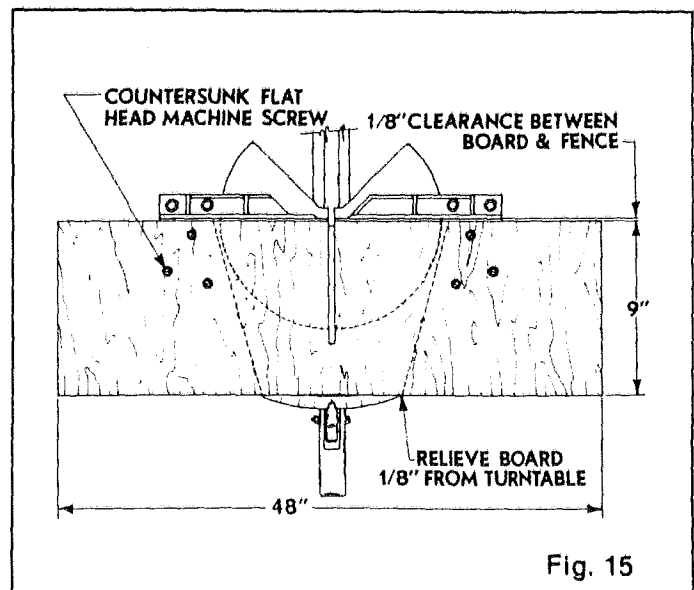

Fig. 15
To construct a table extension it is suggested that a 1/2" thick x 9" wide x 48" long straight, solid board be used. See Fig. 15. The bottom surface of the board must be relieved 1/8" in the area of the turntable to permit rotation of the miter arm. Attach the board to the miter saw table, according to the illustration shown, using six (6) 1/4-20 x 1" long counter-sunk flat head machine screws. All screw heads must be recessed below the top surface of the board. After assembly of the board to the table, make a clearance cut into the board with the miter arm and/or bevel post at the setting to be used. **NOTE:** The usable height of the fence as well as the thickness cutting capacity of saw will be reduced by the thickness of the table extension board. **CAUTION:** Screw heads must clear blade in all cutting positions of miter arm and bevel post.